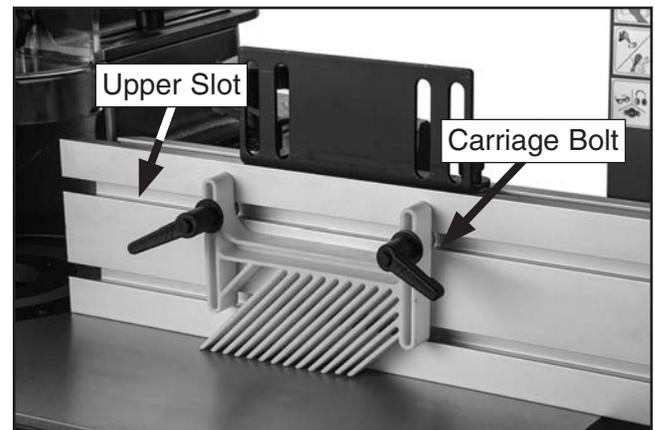

Figure 22. 0" to 2³/₄" clearance placement.
2. Re-install hardware removed in **Step 1** to featherboard, then slide carriage bolts into upper slot on fence face (see **Figure 22**).